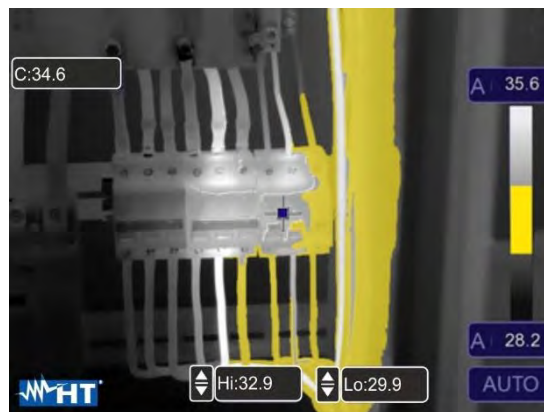

Fig. 43: Selection of isotherm line Alarm Temp. range
9. Touch the “Hi” and “Lo” field at the bottom of the display and use the arrow keys ▲ or ▼ to set the value of the **maximum** and **minimum** temperature threshold. The instrument shows the image spots with temperature between the “Lo” and the “Hi” threshold in orange colour, and the remaining spots in grey colour (see Fig. 43).